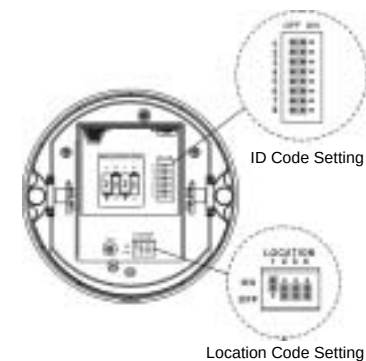

Figure 6. ID Code and Location Setting
WMD33A provides the user 256 ID codes set up to prevent the interferences from other PIR motion detector devices installed next to your house. There are eight (8) positions allow the user to set up 256 ID codes (00000000 ~ 11111111) by mini jumpers. Please refer to Figure 6 to set up the ID Code.
To set up the location by mini jumpers, each transmitter only can select one location. Please refer to Figure 6 to select the transmitter's location.